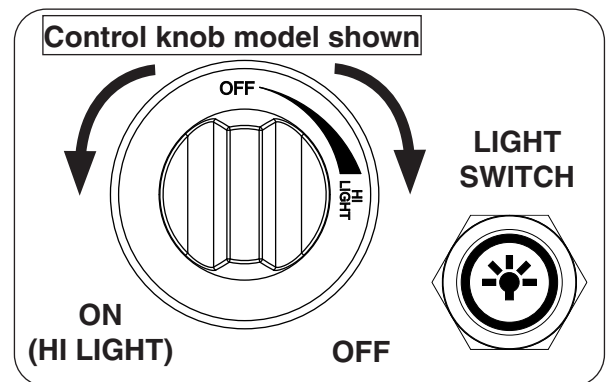

Fig. 53-3 Control panel detail
This key (and the entire remote) only works when the light switch located on the unit's control panel is in the ON position. See Fig. 53-3.
1. Push the light switch (valve side of unit) to the ON position. The light switch will light up when on. See Fig. 53-3.